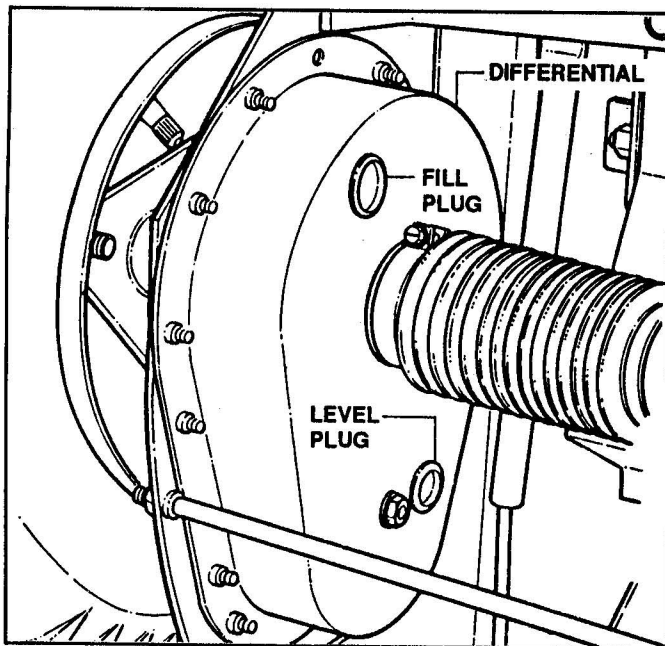

FIGURE 3.9
- To check lubricant, remove fill plug and visually inspect for lubricant on the internal parts of the differential. If no lubricant is visible on the internal parts of the differential. Contact a SNAPPER dealer for service. See Figure 3.9.